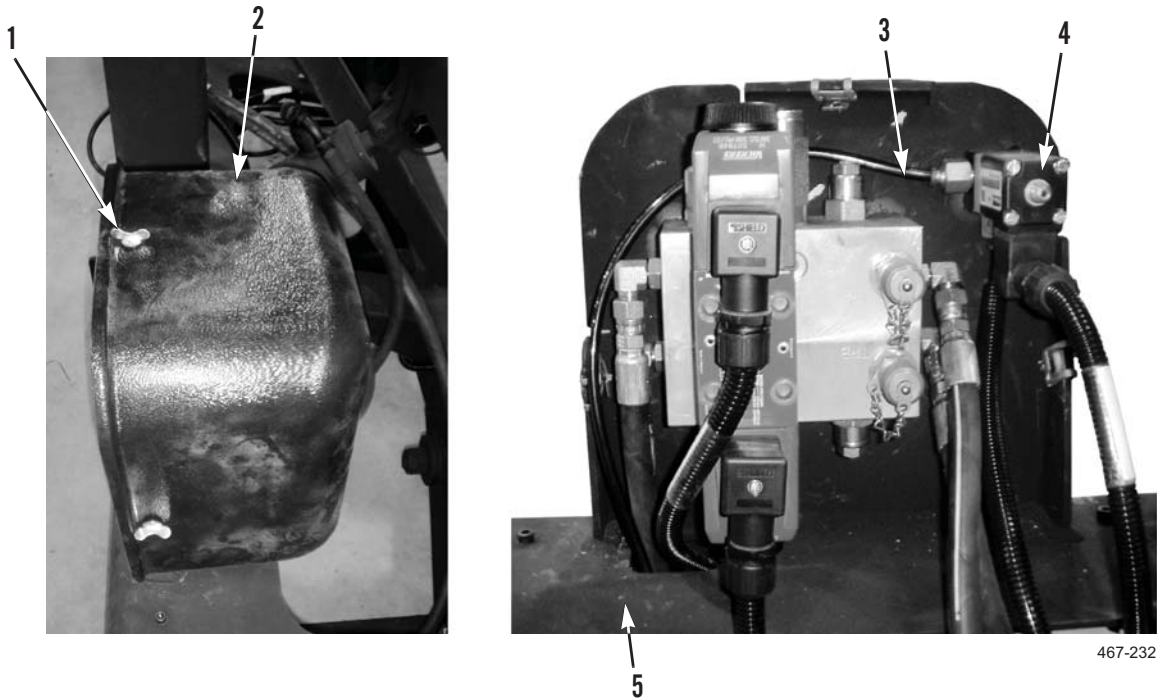

Figure 14. Routing Stowage Assembly Air Hose.
41. Route air hose (Figure 14, Item 3) from solenoid valve (Figure 14, Item 4) on stowage assembly (Figure 14, Item 5) to air tank on right side of vehicle.
42. Install manifold cover (Figure 14, Item 2) in stowage assembly (Figure 14, Item 5) and secure three locking pins (Figure 14, Item 1).